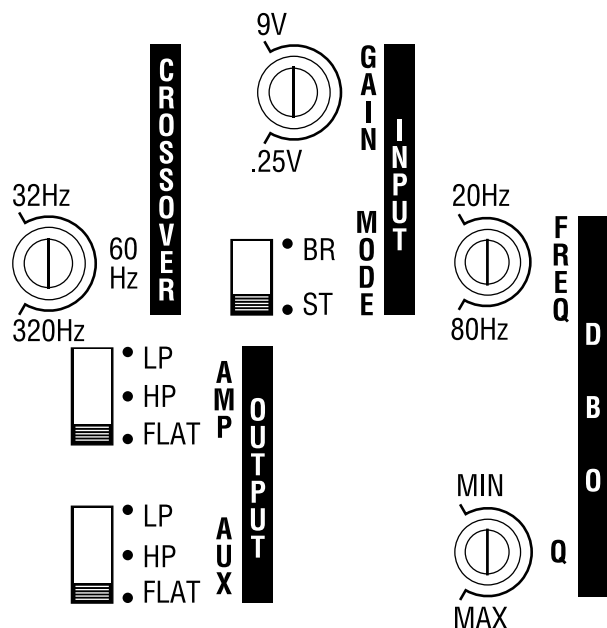

Figure 8. Kappa 202a controls for crossover, input, output, and DBO (Dynamic Bass Optimizer).
**IMPORTANT:** If you plan to use the Kappa 202a to drive full-range speakers, set both AMP and AUX filters to FLAT (refer to Figure 1 on page 3 and Figure 8 below) and skip to the next section, "Setting Input Sensitivity".
1. Set the Crossover control to the frequency recommended by speaker manufacturer (refer to Figure 8). If the value is unknown, set the control midway.
2. Depending on your system plan, set the AMP and AUX switches to LP (low-pass), HP (high-pass), or FLAT (refer to Figure 8).
Initially, turn the input sensitivity GAIN control to its minimum (counter-clockwise) position (refer to Figure 8).